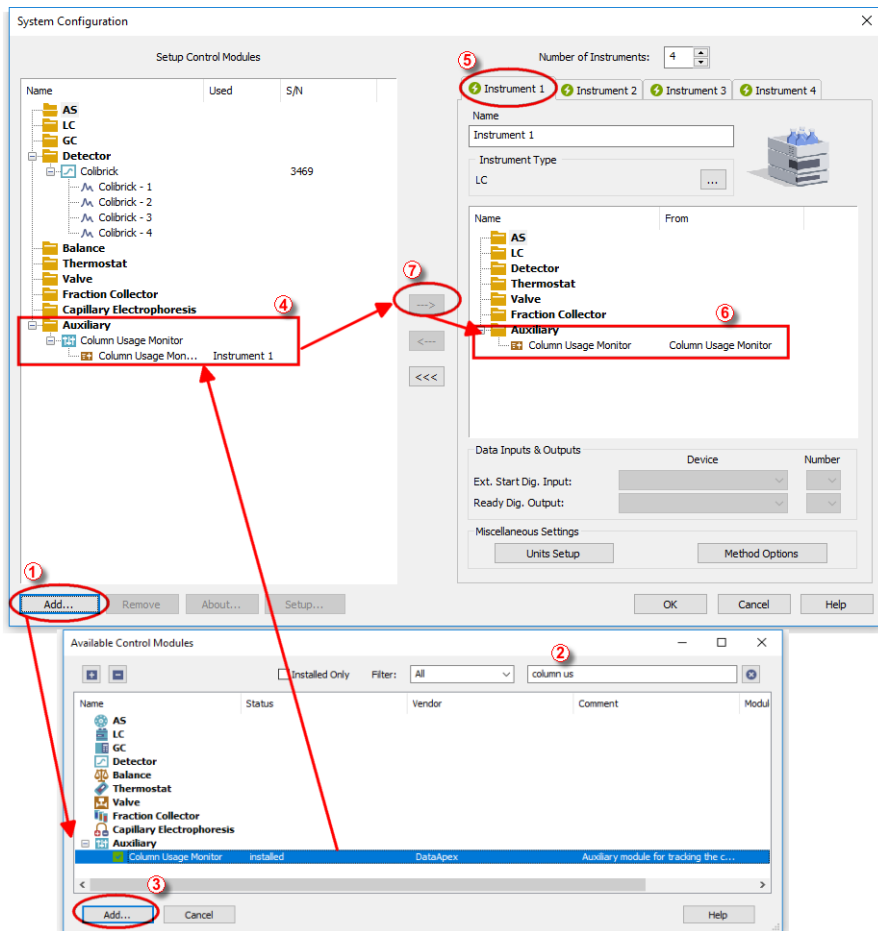

Fig 1: System Configuration
- Press the **Add** button ① (See **Fig 1** on pg 3.) to invoke the **Available Control Modules** dialog.
- You can specify the searching filter ② to simplify the finding of the driver.
- Select the **Column Usage Monitor** item in the *Auxiliary* section and press the **Add** ③ button.